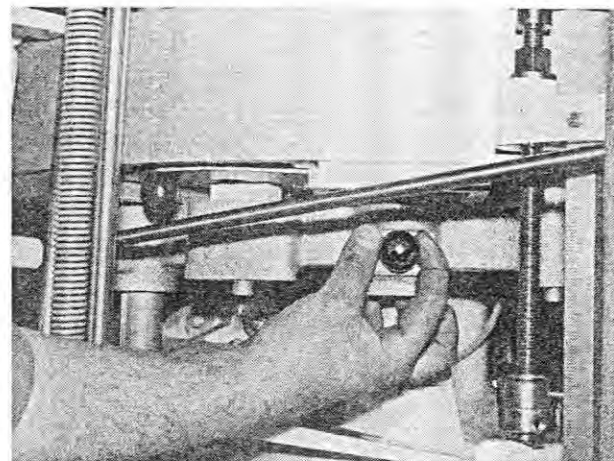

Fig. 159
23. Lower the cell bottom by pulling out the index pin (Figure 159).